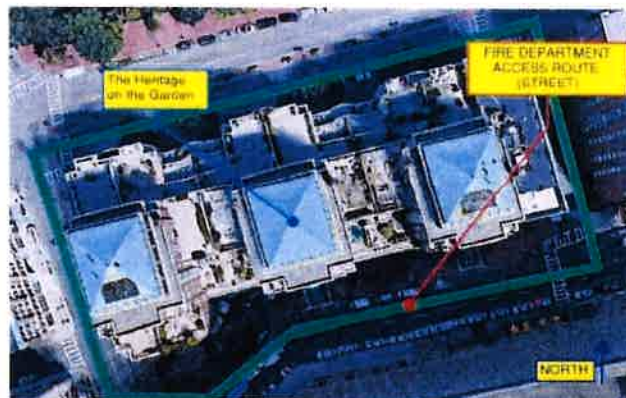

Figure 2: Google Maps Site Plan
- Fire Department Access: The Boston Fire Department has vehicular access around the building directly off Park Plaza, Boylston Street Arlington Street and Hadassah Way. The Fire Command Center is located behind the security desk in the lobby off the 75 Park Plaza entrance. In addition to this entrance, there are multiple other entrances around the perimeter of the building. See Figure 2 below.